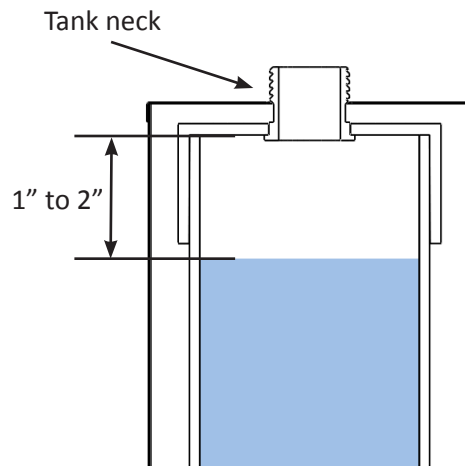

Figure 15: Fill level
6. Fill the NP Series flow center reservoir with clean, debris free loop fluid. Pour the fluid into the top until the level reaches 1-2" below the bottom of the neck (Figure 15).
4. Start all flow center pumps and allow system to operate for several minutes. Remove tank's cap and check fluid level, adding additional loop fluid if necessary, while pumps are running. Fluid should be about 2" below the bottom of the tank's neck as shown in Figure 15. Replace the cap and tighten until there is an audible "click" similar to an automobile's gas cap.
16. Remove the tank's cap and check the fluid level. Fluid should be about 2" below the bottom of the tank's neck as shown in Figure 15. Replace the cap and tighten until there is an audible "click" similar to an automobile's gas cap.